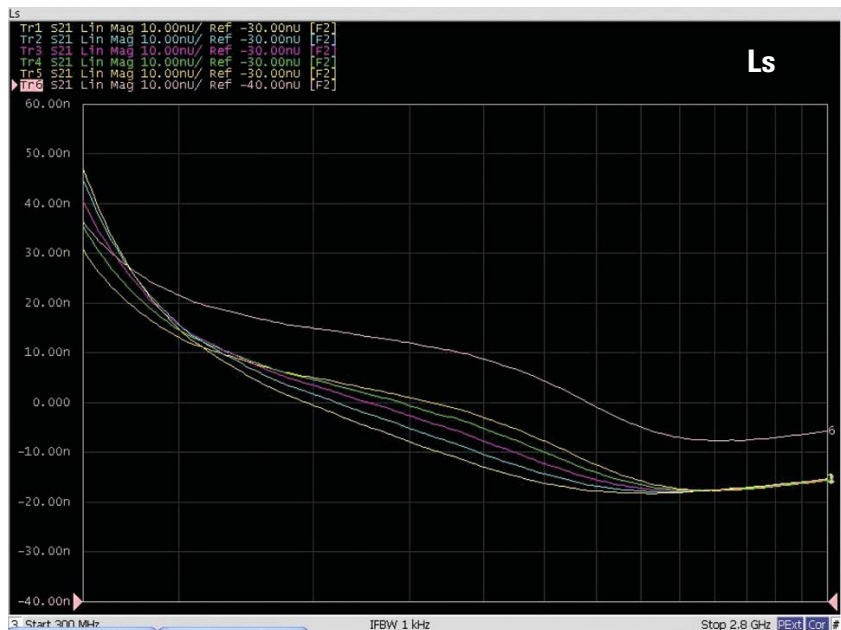

Figure 25. Frequency characteristics of a ferrite bead measured by changing the DC bias current in increments of 0.2 A (Ls)
Figure 25 shows the results of sweeping the DC bias current with a fixed frequency. You can evaluate the saturation characteristics of a ferrite bead by sweeping the DC bias current and verifying the reactance (X) and inductance (Ls).